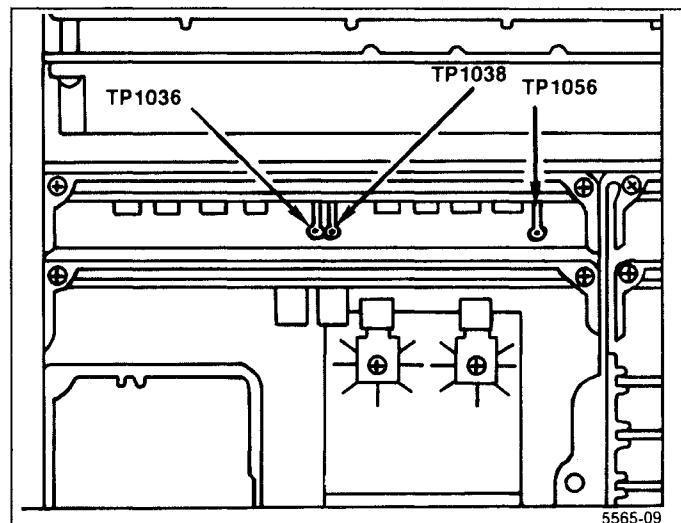

Figure 5-5. Test points on the CRT Readout board.
- i. Disconnect the voltmeter, set TIME/DIV to AUTO, change the test oscilloscope to Ext Trigger, and apply the signal at TP1038 on the Crt Readout board (Figure 5-5) to the test oscilloscope Ext Trigger input. Set the test oscilloscope Time/Div to  $2 \mu$ .